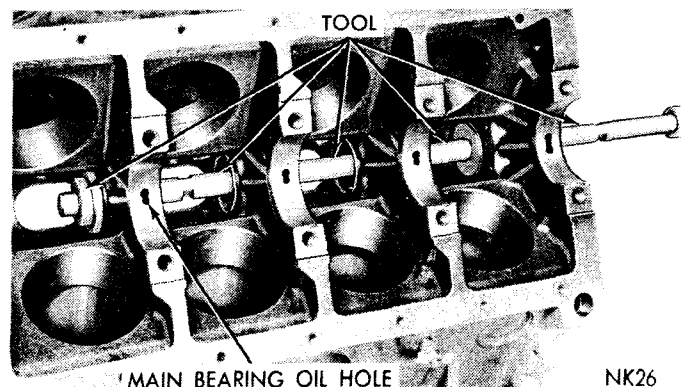

Fig. 29—Removing Camshaft Bearings
(1) With engine completely disassembled, drive out rear cam bearing welch plug.
(2) Install proper size adapters and horse shoe washers (part of Tool C-3132A) at back of each bearing shell to be removed and drive out bearing shells, (Fig. 29).